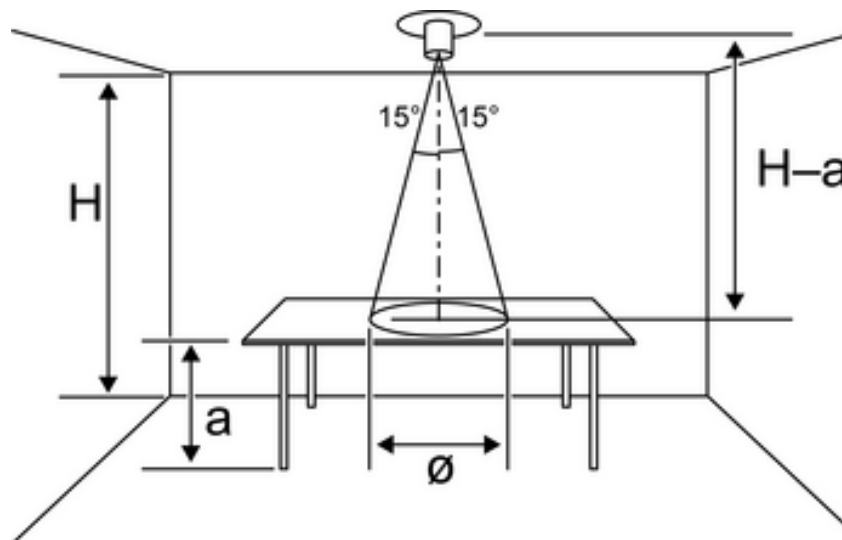

Figure 2: Rigid fibre-optic rod with straight incidence
- Install the brightness controller directly above the work surface on the room ceiling (figure 2).
The controller is directly above the work surface (figure 2).